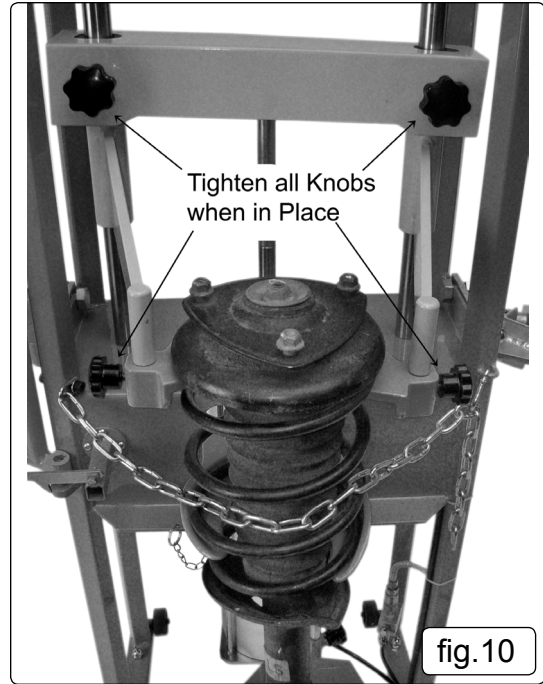

fig.10
- 5.1.4. Having correctly positioned the spring on the lower and upper brackets, tighten all the locking knobs (fig.10).
- 5.2.1. Offer the new strut spring up to the compressor's brackets and fit it in the same position as that of the old spring. Position the lowest coil of the spring in the lower bracket. and rotate the spring, so that the coil is held as low as possible. Swing the small upper arms into position and locate the upper brackets on the uppermost available coil. Ensure that the coil is placed inside the recesses of the brackets to ensure that the coil will not break free under compression. Tighten all the locking knobs (fig.10).